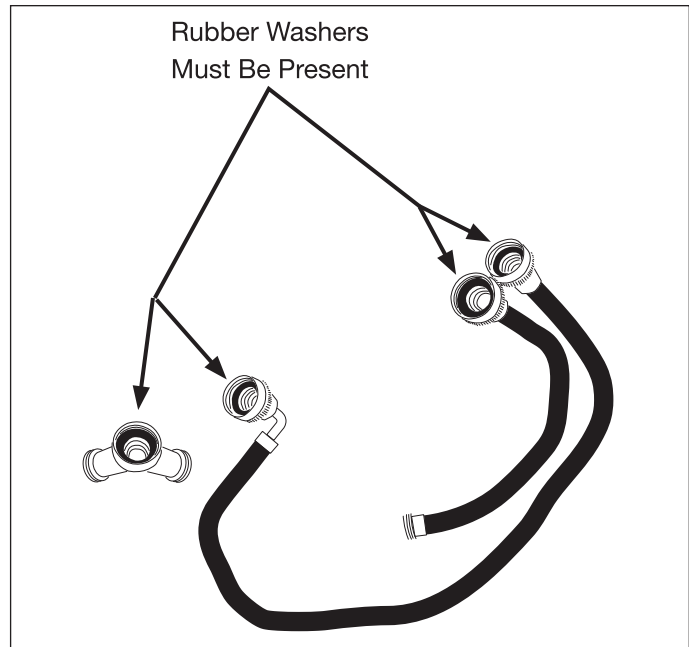

Figure 2-14.
4. Remove hose kit from dryer drum and inspect hose couplings for proper placement of rubber washers. (See Figure 2-14)